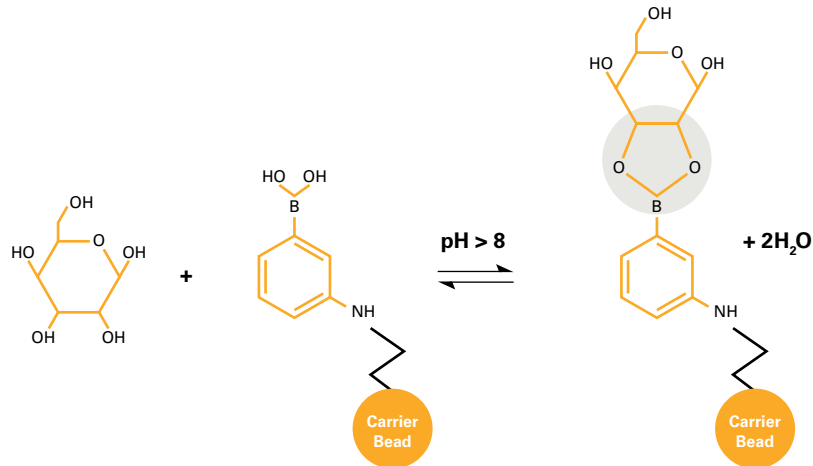

Figure 1. Molecular mechanism of saccharide binding to Glycoprotein Enrichment Resin.
**Glycoprotein Enrichment Resin** (Cat. No. 635647) is a phenylboronic acid-based resin which provides quick, efficient, and specific enrichment of glycoproteins from complex samples such as human serum, using either simple gravity flow columns or medium pressure methods such as FPLC (*Clontechniques*, July 2008). The resin consists of an *m*-aminophenylboronic acid ligand (Brena *et al.*, 1992) coupled to agarose beads. The ligand binds to *cis*-diol groups on sugar residues such as mannose, galactose, or glucose that are present within the saccharide moiety of glycoprotein molecules, forming a reversible five-member ring complex (Figure 1). This complex can be dissociated by lowering the pH, or by using an elution buffer containing either Tris or sorbitol.